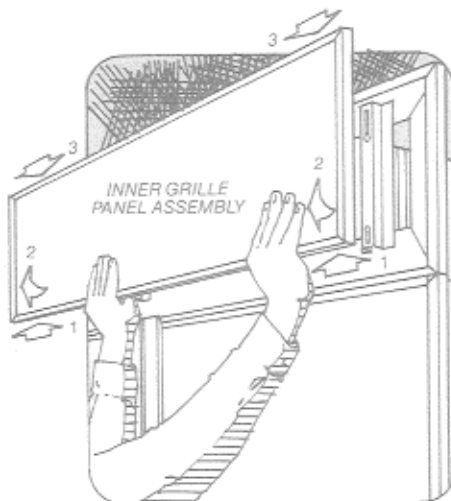

Figure 22
The optional panellized grille which is removed by lifting up (1) and then pulling out at the bottom (2) and then down to release from the grille mounting bracket (3). See Figure 22.